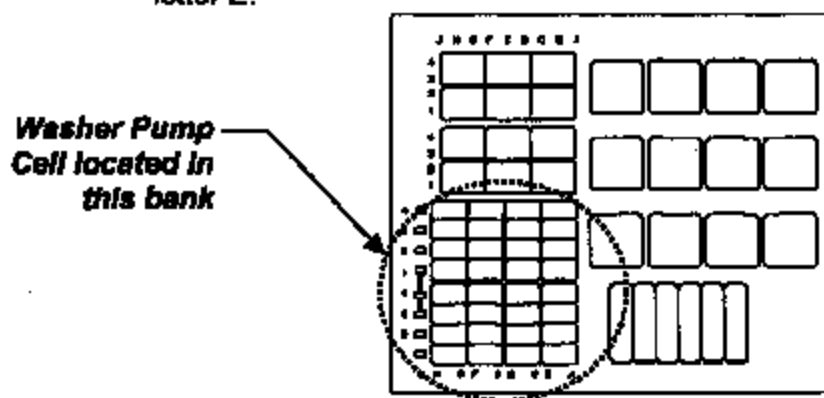

Figure 3
- D. Locate cell labeled, "5A WASHER PUMP," in the lower left bank of cells (see figure 3).